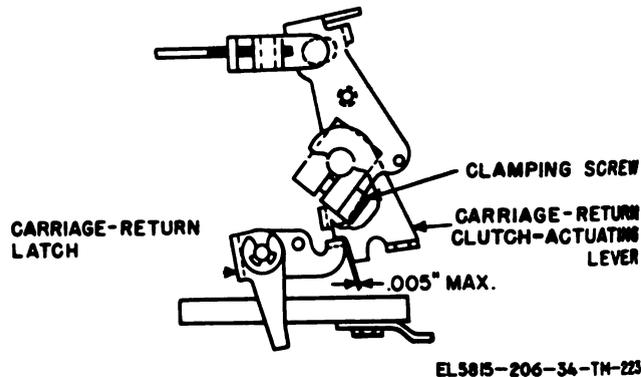
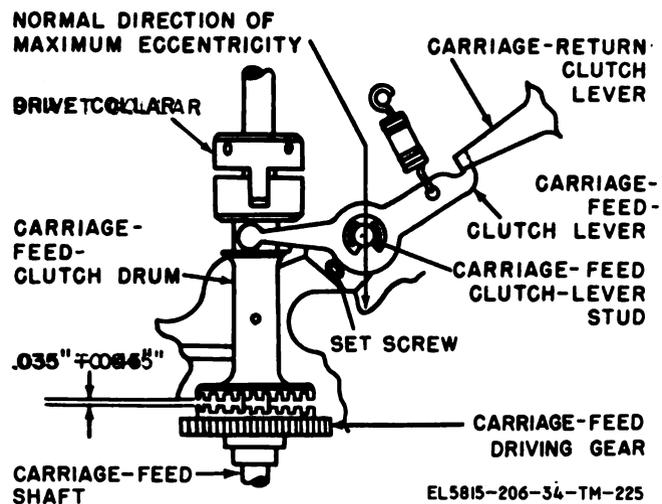

Figure 3-151. Carriage-return clutch actuating-lever adjustment (TT-4B/TG, TT-4C/TG, TT-335/TG, TT-537/G, TT-698A/TG, and TT-698B/TG).
Figure 3-153. Carriage-feed-clutch drum adjustment.
(fig. 3-151)
b. *Method of Checking.* When the carriage is two or more spaces from the left-hand margin and the motor is off, select the carriage-return operation. Release the transfer lever and turn the motor by hand until the carriage-return clutch is fully engaged. Manually hold the carriage-return-clutch-lever (fig. 3-153) in a counterclockwise direction and check clearance with a feeler gage.
c. *Adjustment.* Disconnect the carriage-feed clutch-lever spring (fig. 3-153) and the horizontal carriage-return link (fig. 3-169). Manually hold the carriage-return-clutch members in full engagement. Loosen the clamping screw (fig. 3-151) and rotate the carriage-return clutch-actuating lever to meet the requirement (a above). Hold the carriage-return clutch-actuating lever down against the shaft collar and tighten the clamping screw. Reconnect the carriage-feed clutch-lever spring and make the carriage-return clutch adjustment (para 3-185). Check the related adjustments (para 3-199, 3-200, and 3-238).
3-186. Carriage-Feed-Clutch Drum Adjustment (fig. 3-153)
(3) Loosen one of the two setscrews that hold the drive collar (fig. 3-153) to the carriage-feed shaft and turn the shaft until the other setscrew in the collar is straight up. Remove the double-blocking lever spring (A, fig. 3-155) and manually disengage the carriage-feed clutch (fig. 3-153). Rotate the carriage-rack driving gear (A, fig. 3-158) until the decelerating cam (B, fig. 3-154) is set as closely as possible to the position described in a above. Engage the carriage-feed clutch and replace the double-blocking lever spring.
a. *Requirement.* The carriage-return latch-tripping arm should trip the carriage-return latch when the decelerating cam reaches the position shown in B, figure 3-154, and the carriage-feed clutch members (fig. 3-153) are aligned to mesh.